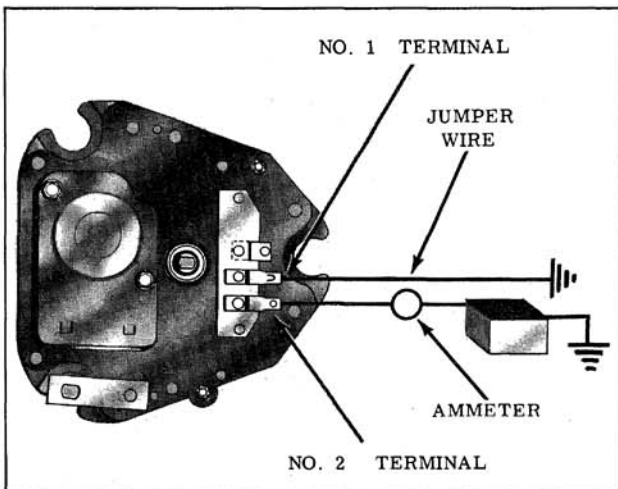

Fig. 13-153 Terminal Board Connections
3. Disconnect wiring harness from wiper and try operating wiper as shown in Fig. 13-153.
| If wiper operated correctly independently of car wiring and dash switch, but original trouble was: | Possible Cause of Trouble(Terminal Numbers shown on Fig. 13-153)   |